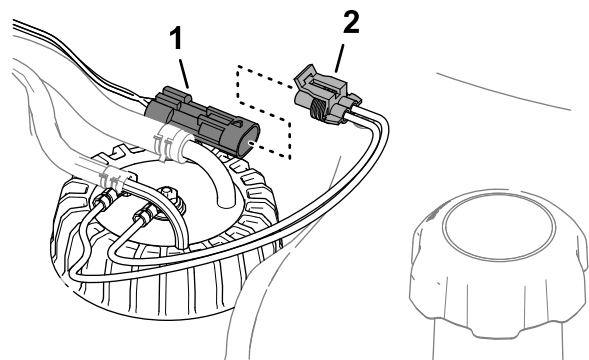

**Figure 122**
2. Remove the 5 Phillips-head screws that secure the fuel-sender cover to the fuel tank, and remove the cover (Figure 122).